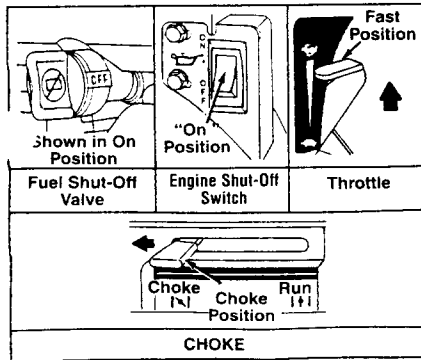

FIGURE 13B-MODEL 447
2. Turn fuel shut-off to ON position. See figure 13B.